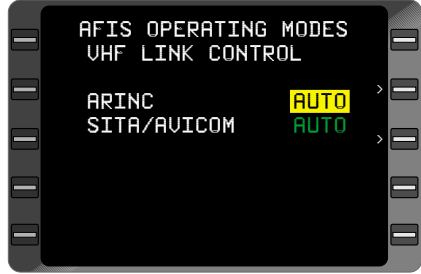

Figure 7-30
**AUTO:** The VHF network will automatically be selected whenever the aircraft present position is within the appropriate boundaries. (Figure 7-30)